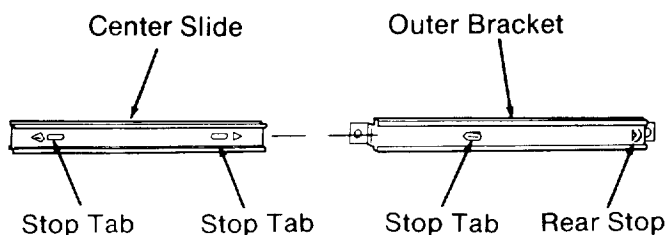

Fig. 33
1. Find the twelve *outer brackets* and twelve *center slides* that will be put together to form the *slide brackets*. (Figure 33)
3. Slide each *center slide* into an *outer bracket*. There are two notches on each *center slide* that stick out on opposite sides. Make sure that you insert the notch sticking out toward the *outer bracket* first. This notch should stop the *center slide* from sliding off the *outer bracket*. (Figure 33)